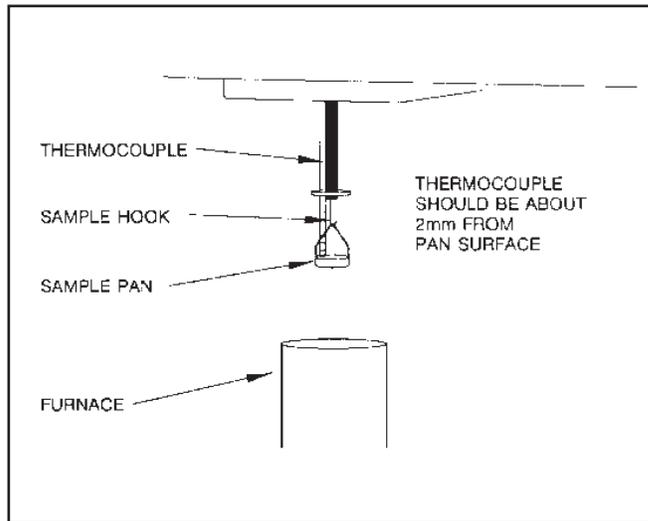

Figure C.4
4. Position the thermocouple at the edge of the sample pan, rather than in the middle for the best results (see Figure C.4).